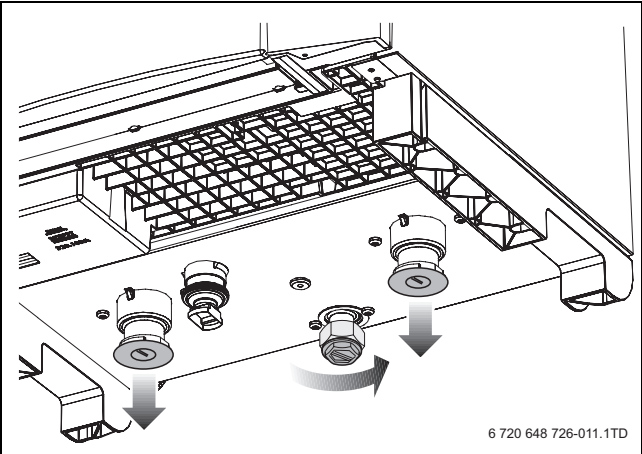

Fig. 11 Removing the covers
- ▶ Remove the protective covers from the bottom of the boiler (→ fig. 11).